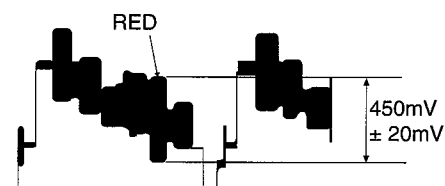

Fig. 2-2
(4) Chroma Gain Adjustment (Figs. 2-2, 2-3, 2-4)
Press the [Ctrl] key and hold it down, then press the **U** and **D** keys so the red level is 450mV $\pm$ 20mVp-p. (Fig. 2-2)